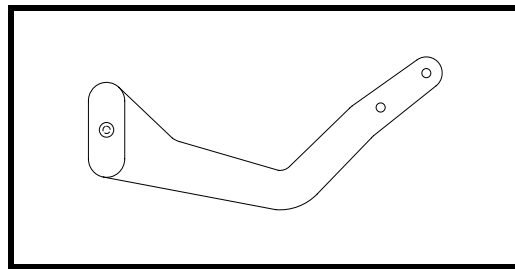

Figure 3
- ❑ Install the spacers on the elevator balance weight arms. See Figure 3. You will need to sand the aluminum to the finished profile—a vertical belt or disc sander is best for this. Drill the rivet hole with a 1/8"Ø drill. Ream the hole up with a No. 30 drill (.128"Ø). Countersink (100°) the spacer on the inboard face and install the rivet. It would be a good idea to paint the spacer with zinc chromate primer, and we prefer to install such parts with wet primer between the parts while riveting to exclude moisture. As an alternative, you could epoxy the spacers to the arms.
The original drawings showed the trim tab of solid spruce construction. The present drawings show the trim tab of spar and rib construction for lighter weight. Also, we believe that the new method of construction is simpler. If you wish to construct the trim tab of solid spruce, see Figure 3 and use the contours of P/N 403-3 and P/N 403-6. Because this solid spruce construction requires a break in the trailing edge, it is easier (although slightly wasteful) to make the trailing
If you plan to skin the elevator in plywood, the trailing edge strip is 15mm wide. If you plan to use the fabric covered elevator, the trailing edge strip should be 30mm wide. In this method the ribs are joined to the trailing edge with a 15mm deep notch in the trailing edge. See Figure 3 for details regarding the construction of the fabric covered elevator.